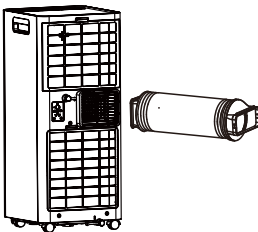

Figure 9
6. Screw the inner and outer joints of the exhaust duct at both ends, as shown in Figure 9.